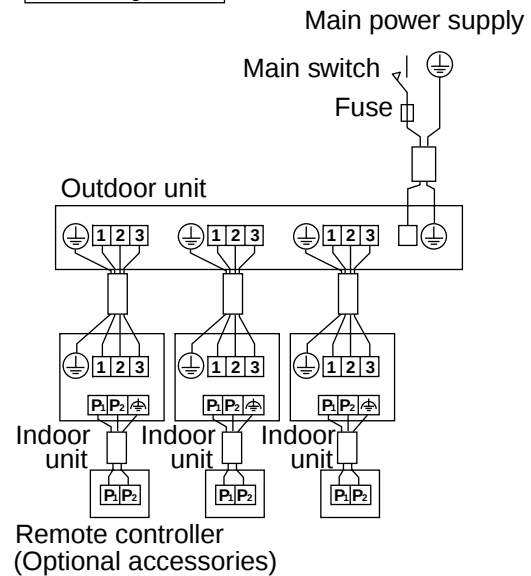

Fig. 26
- **Multi system** : 1 through 4 indoor units connect to 1 outdoor unit. The indoor unit is controlled by remote controller connected to each indoor unit. **(Refer to Fig. 26)**